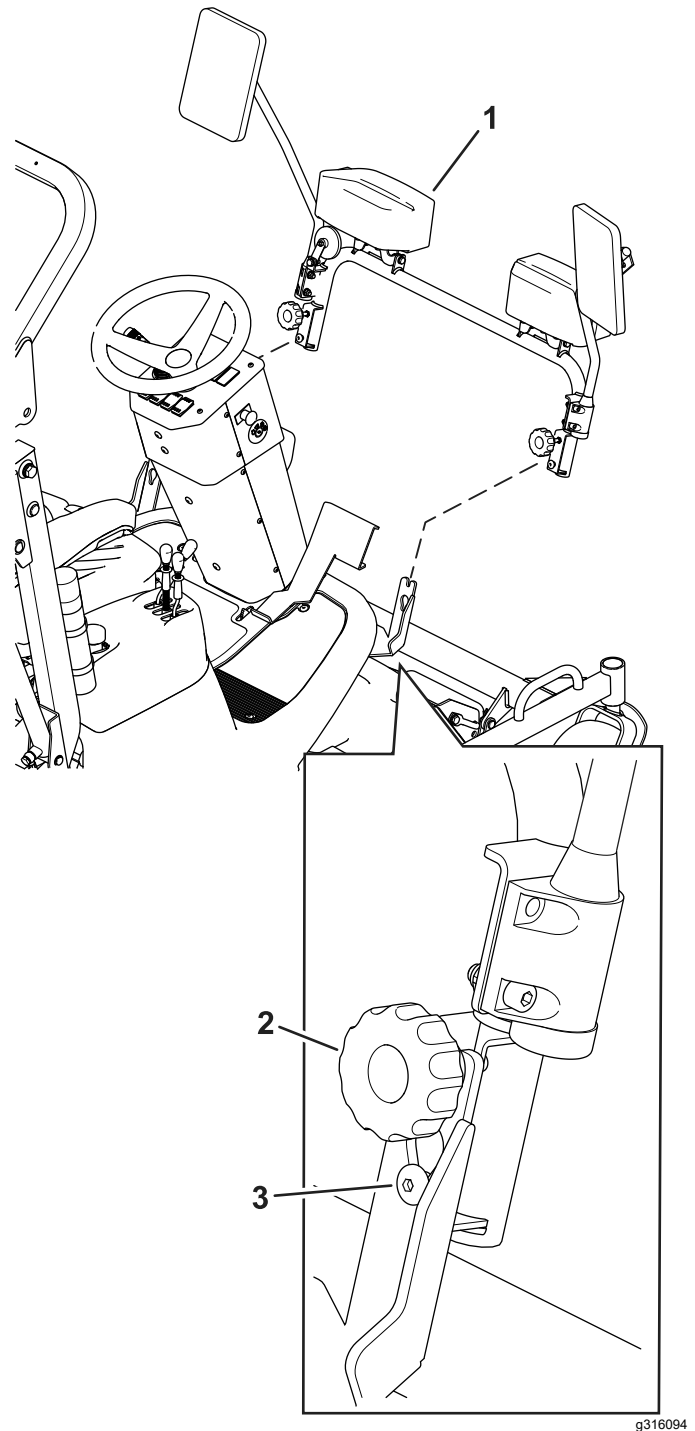

Figure 8
1. Install the front lights onto the machine brackets by using the slots in the brackets (Figure 8).
2. Tighten the knobs (Figure 8).